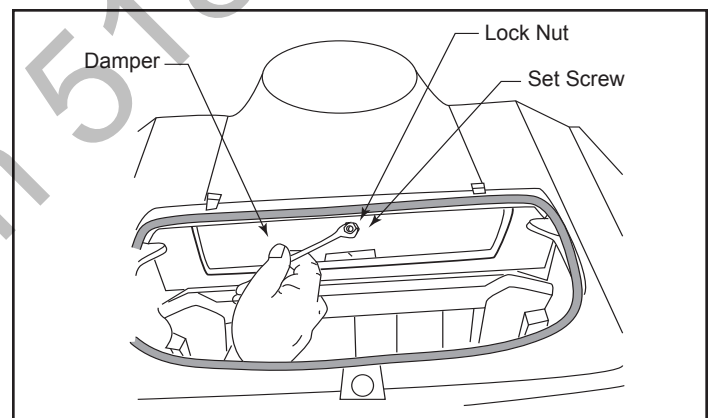

Figure 35 - When the damper's gasket becomes compressed after prolonged use, the damper should be adjusted to regain a tight seal.
- Loosen the lock nut on the set screw in the center of the damper. (Figure 35)